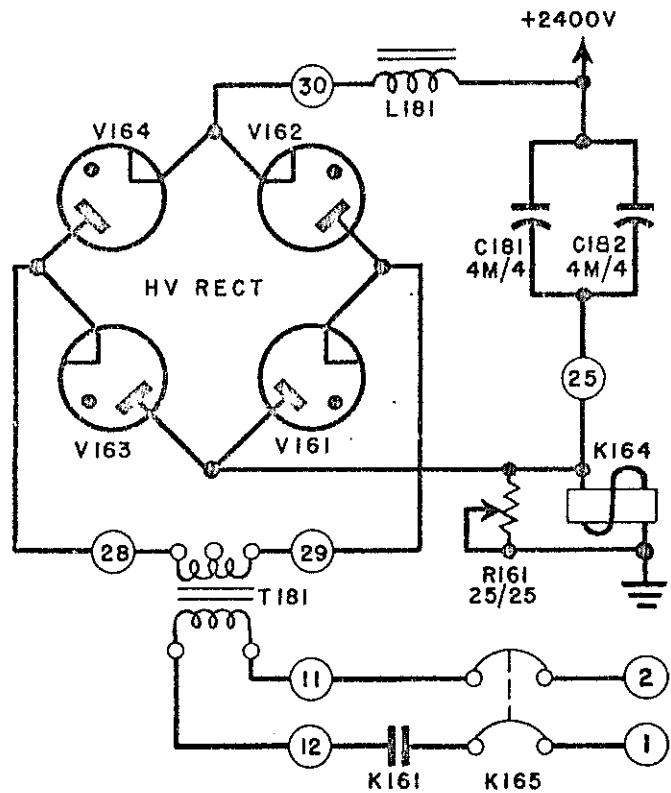

Fig. 2-10 High Voltage Power Supply, Simplified Schematic Circuit
(1) The elements of the high voltage power supply are spread about the lower section of the transmitter. The main high voltage transformer T181 is clamped in the centre of the cabinet floor. It draws its power through the high voltage contactor K161 and the main circuit breaker K165 (see Fig. 2-10). The transformer secondary develops 2770 volts between terminals 1 and 3 for full-power operation, and 1935 volts between terminals 1 and 2 for low-power operation. This alternating voltage is rectified by tubes V161, V162, V163 and V164 (type 3B28) acting together as a bridge rectifier. These gas-filled tubes, mounted in the power supply sub-assembly, are directly-heated by filament power drawn through transformer T161, fuse F161, and the low voltage contactor K162. Smoothing is provided by a single L-section filter, consisting of choke L181 mounted on the cabinet floor to the right of T181, and capacitors C181 and C182 mounted on the cabinet